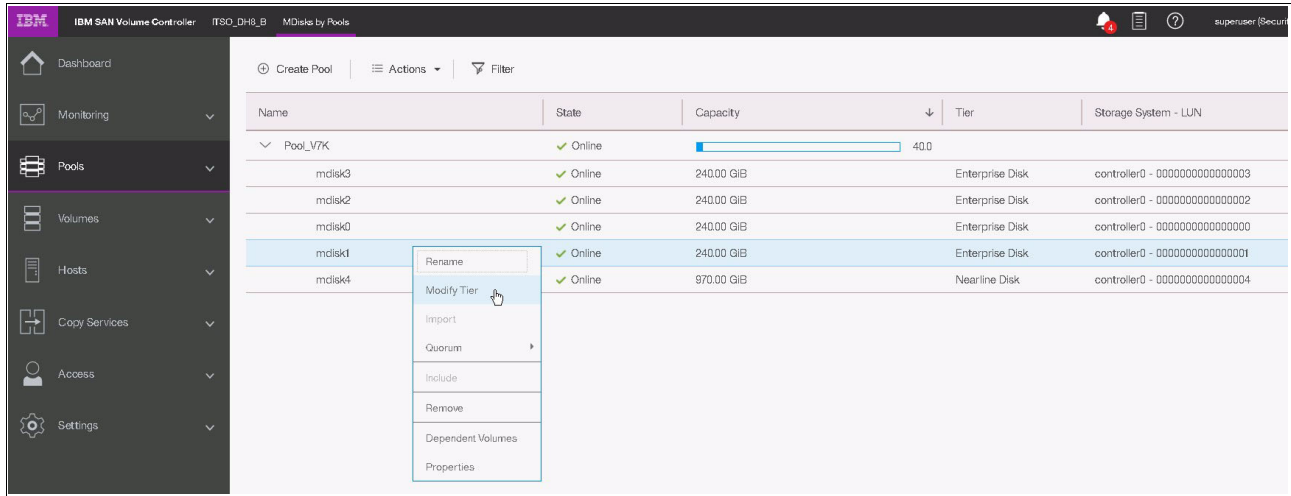

Figure 4-27 Change the MDisk tier
2. Right-click the wanted MDisk and select **Modify Tier** (Figure 4-27).